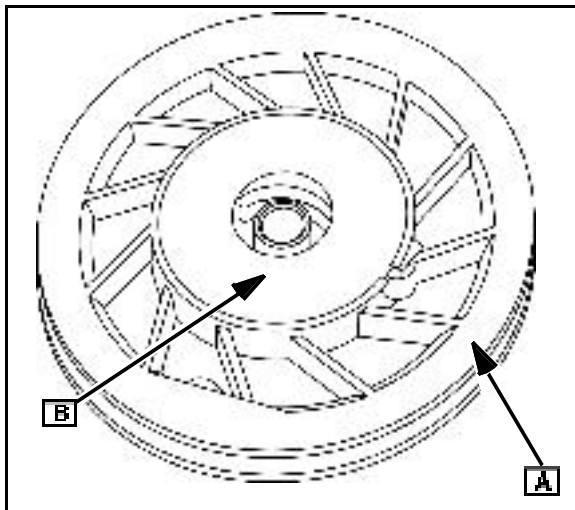

Fig. 23
1. Inspect starter pulley (A) for cracks, rough edges, wear, burrs in pulley groove, or a loose spring retainer ([B] Fig. 23).